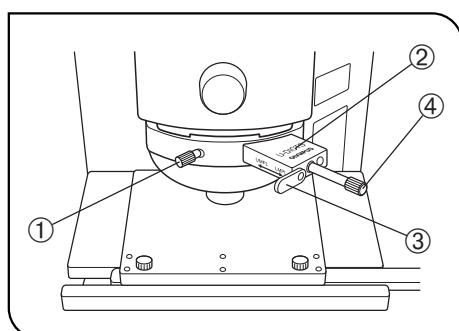

Fig. 7
(Fig. 7)
1. Adjust the background contrast by turning the prism movement knob ④ on the DIC slider as described below. (Fig. 7)